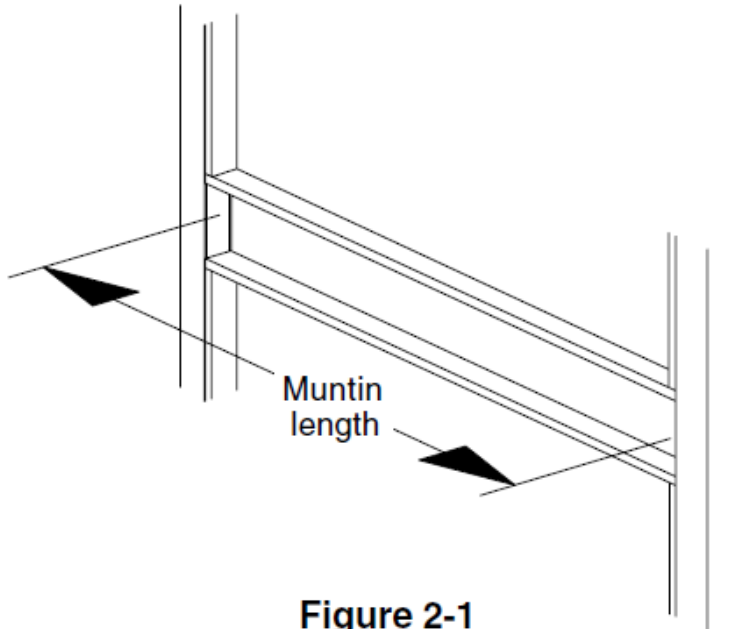
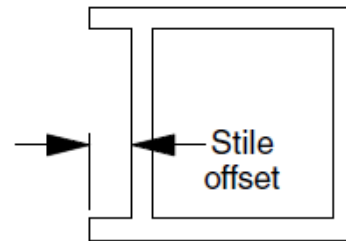

Figure 2-1
Figure 2-2
2.1. Measure muntin length (Figure 2-1) and stile offset (Figure 2-2).